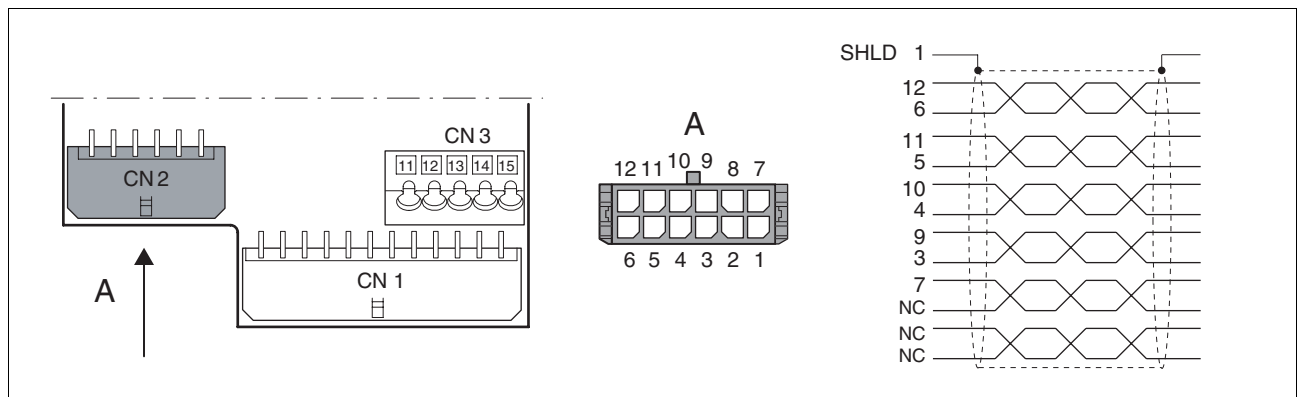

Figure 4.18 Wiring diagram rotation monitoring
- ▶ (1) Strip the cable jacket, length A.
- ▶ (2) Slide the shield braiding back over the cable jacket. The shield drain wire is required as connection.
- ▶ (3) The wire with the color blue/red is not required and may be cut. Insulate the shield drain wire with heat shrink tube.
- ▶ (4) Crimp the contacts to the remaining wires and to the insulated shield drain wire. Insulate the shield braiding with heat shrink tube. Plug the crimp contacts into the connector housing; see Figure 4.18 for the pin assignment.
- ▶ (5) Strip the cable jacket to length C at the position shown; at this point, the cable is fastened to the EMC plate with a clamp (shield to ground connection).